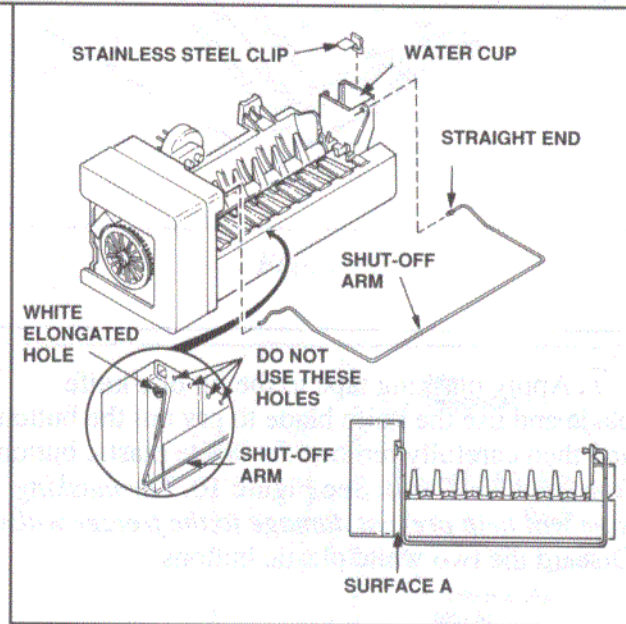

Figure 7
- c. Install the shut-off arm on the ice maker as shown in Figure 7. Install the straight end in the round hole in the water cup first; the flat end on the shut-off arm **MUST** go through the hole in the water cup. Then insert the other end in the white elongated hole in the ice maker housing. **Insert the end of the shut-off arm into the elongated hole only; not into one of the round holes in the ice maker housing (see Figure 7).** Make sure that the shut-off arm operates properly after installing. Move the shut-off arm up or down until you produce an audible click. Return the shut-off arm to the lowest position.
- d. Slip the stainless steel clip over the outside wall of the water cup. See Figure 7.